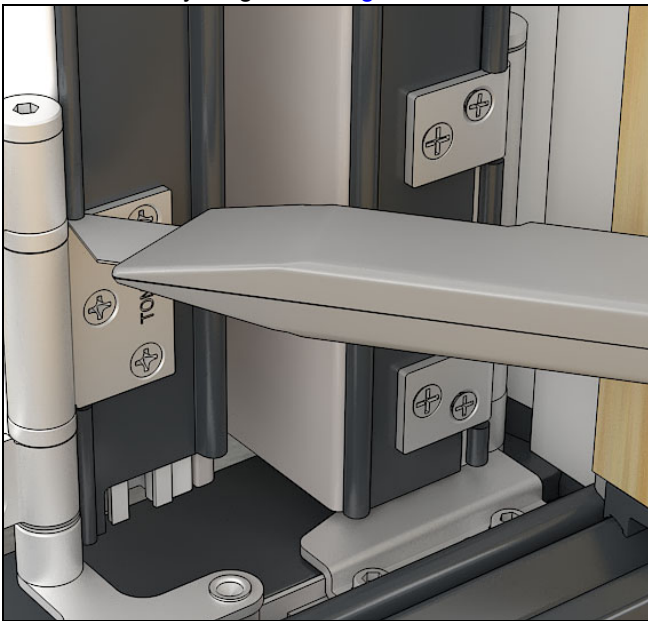

Figure 46
11. Cut the flexible portion of the weather strip above and below every hinge. See Figure 46.